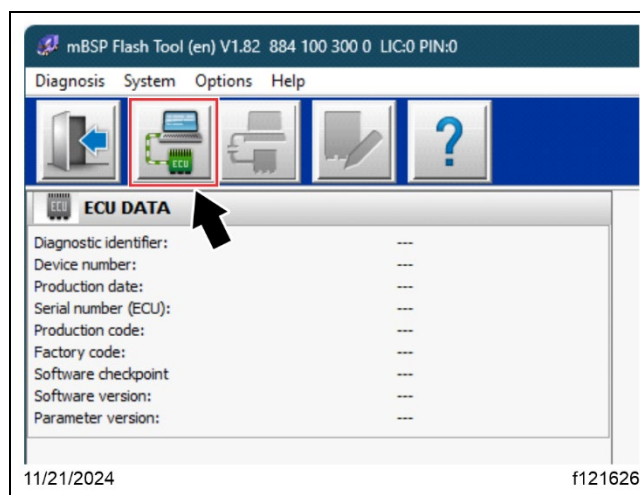

Fig. 48, Initializing the ECU and Switching to Diagnostic Mode
12. If the ECU does not automatically connect, select the button, shown in **Fig. 48**, to initialize the ECU and switch to diagnostic mode.